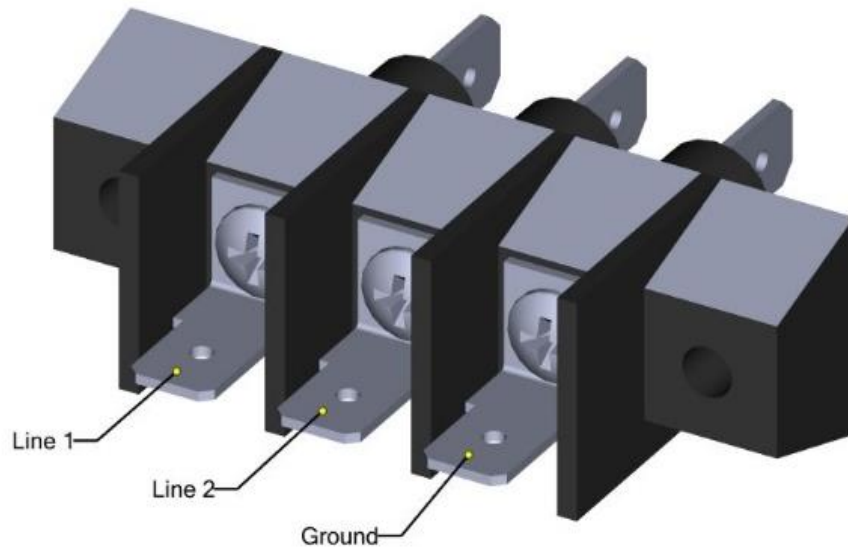

Figure 5: Power Terminal Block
6. Connect from left to right, Line 1, Line 2 and Ground. (See *Figure 5: Power Terminal Block*)
7. Once power is securely connected, install terminal box cover, using the (2) screws.